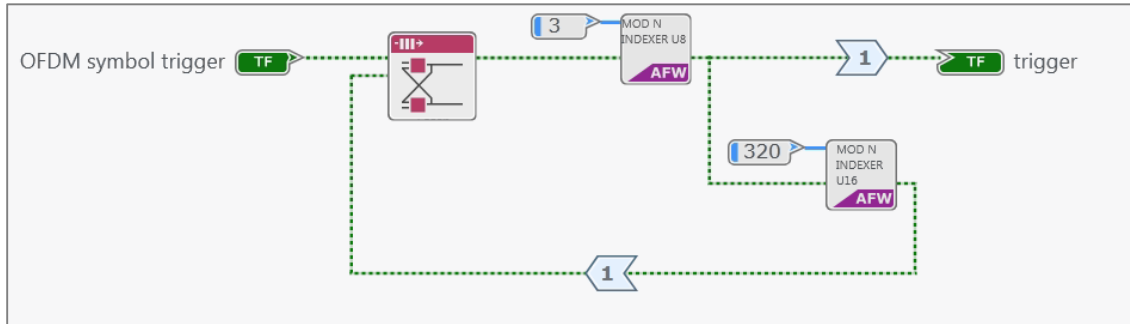
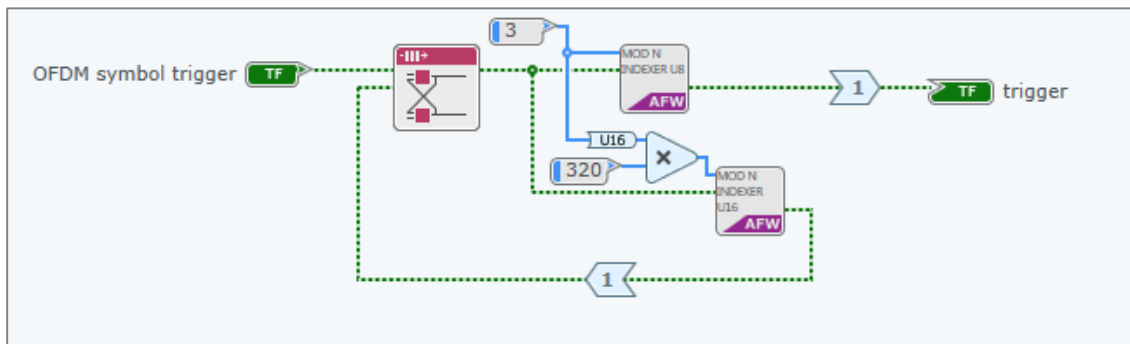

Figure 7: Unmodified "802.11 Internal Loopback Throttle Control.gcdl"
Figure 8: Adaptation of "802.11 Internal Loopback Throttle Control.gcdl"
2. Figure 7, shows the original, unmodified, code. Notice that the connection of the two Mod N Indexers in series together leads to a very long combinatorial path. To address this, it needs to be broken into two separate paths as shown in Figure 8.